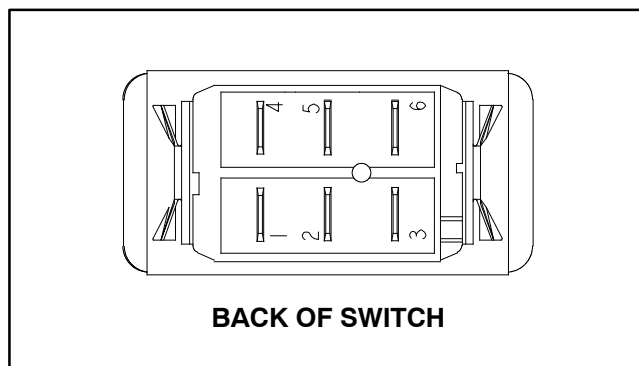

Figure 51
4. The switch terminals are marked as shown in Figure 51. The circuit logic of the air conditioning switch is shown in the chart below. With the use of a multimeter (ohms setting), the switch functions may be tested to determine whether continuity exists between the various terminals for each position. Verify continuity between switch terminals. Replace switch if testing identifies a faulty switch.